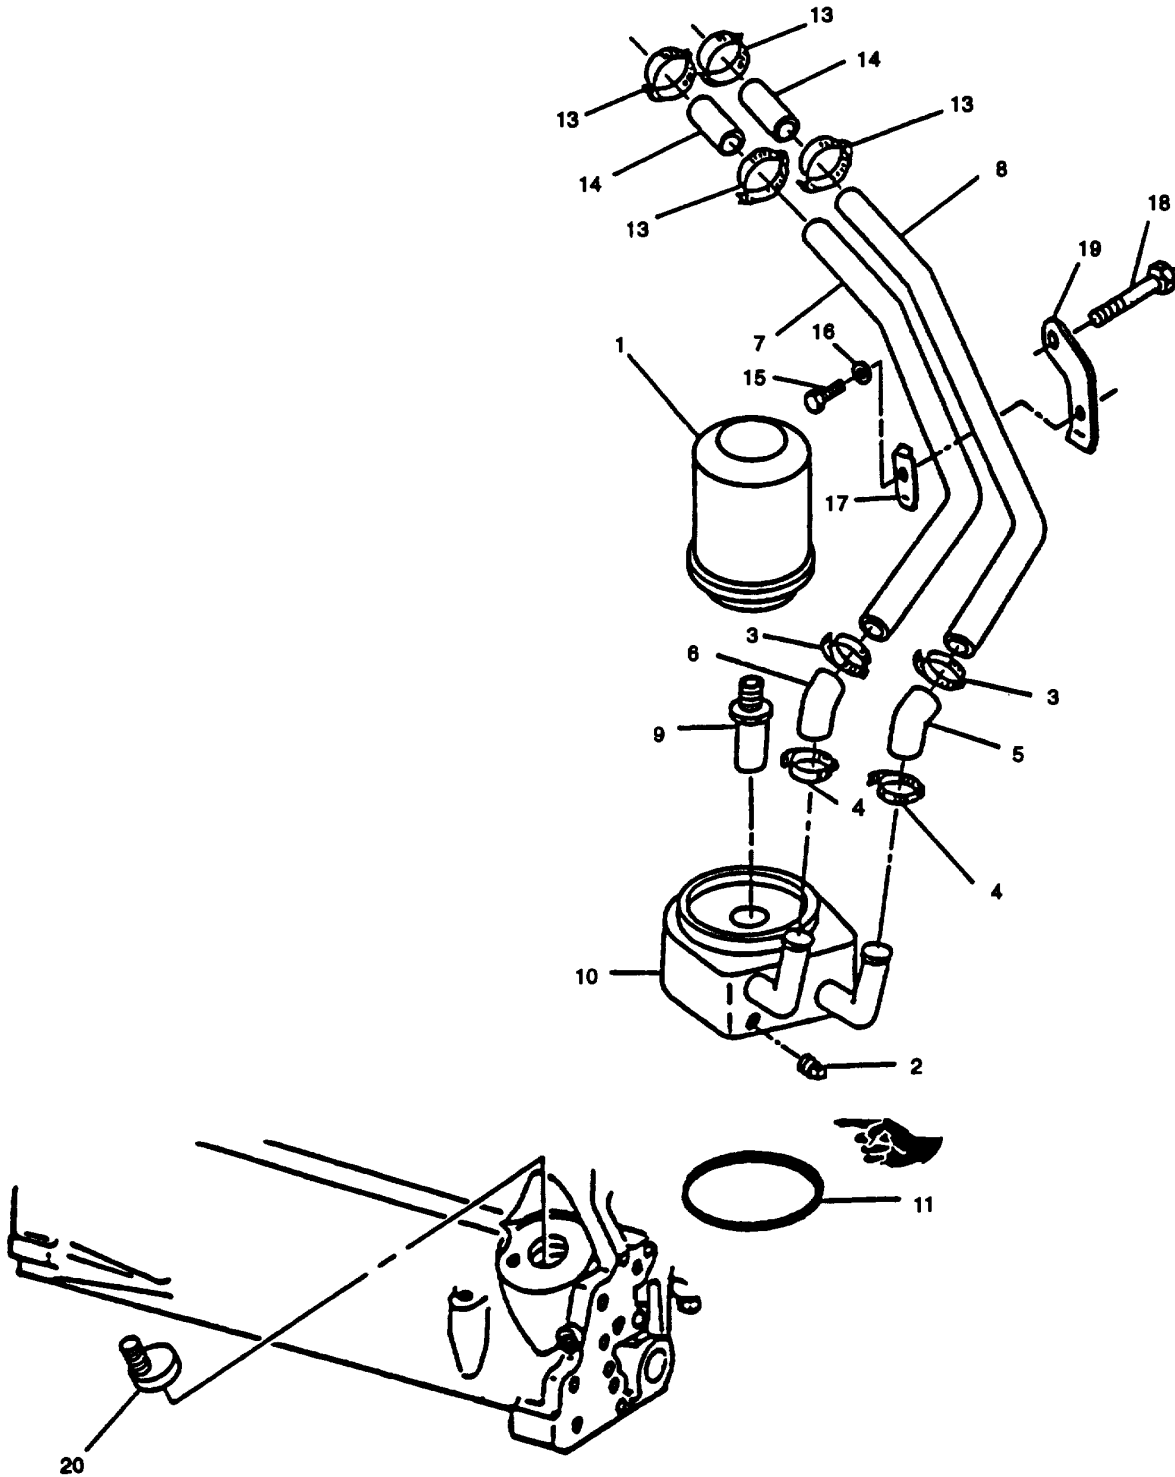
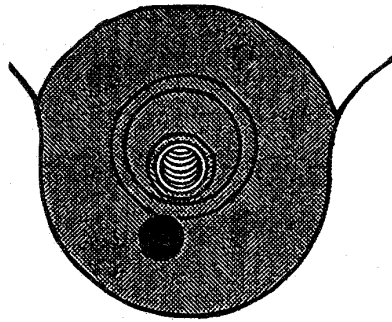

FIGURE 3-28. Oil Filter and Cooler
FIGURE 3-30. Installing Oil Filter Nipple
- b. Using a strap filter wrench, remove filter element (1, FIGURE 3-28) from oil cooler.
- a. Install oil filter nipple (20, FIGURE 3-28) in engine block as follows: (1) Put oil filter nipple over its bore in cylinder block. Turn oil filter nipple so oil hole is as low as possible, refer to FIGURE 3-30.
- b. Position new preformed packing (11, FIGURE 3-28) and oil cooler on engine block and secure with nipple (9). Tighten nipple to 27 ft-lbs (37 Nm).
- c. Install two hoses (5 and 6) and two clamps (4) on oil cooler. Do not tighten clamps.
- d. Install two hoses (14) and two clamps (13) on water pump. Tighten clamps.
- e. Connect tube (7) to hoses (6 and 14) using two clamps (3 and 13).
- f. Connect tube (8) to hoses (5 and 14) using two clamps (3 and 13). Tighten all clamps.
- g. Secure strap (19) to engine using existing screw (18).
- h. Secure tubes (7 and 8) to strap (19) using screw (15), flatwasher (16), and clamp (17).
- i. Install plug (2) in oil cooler.